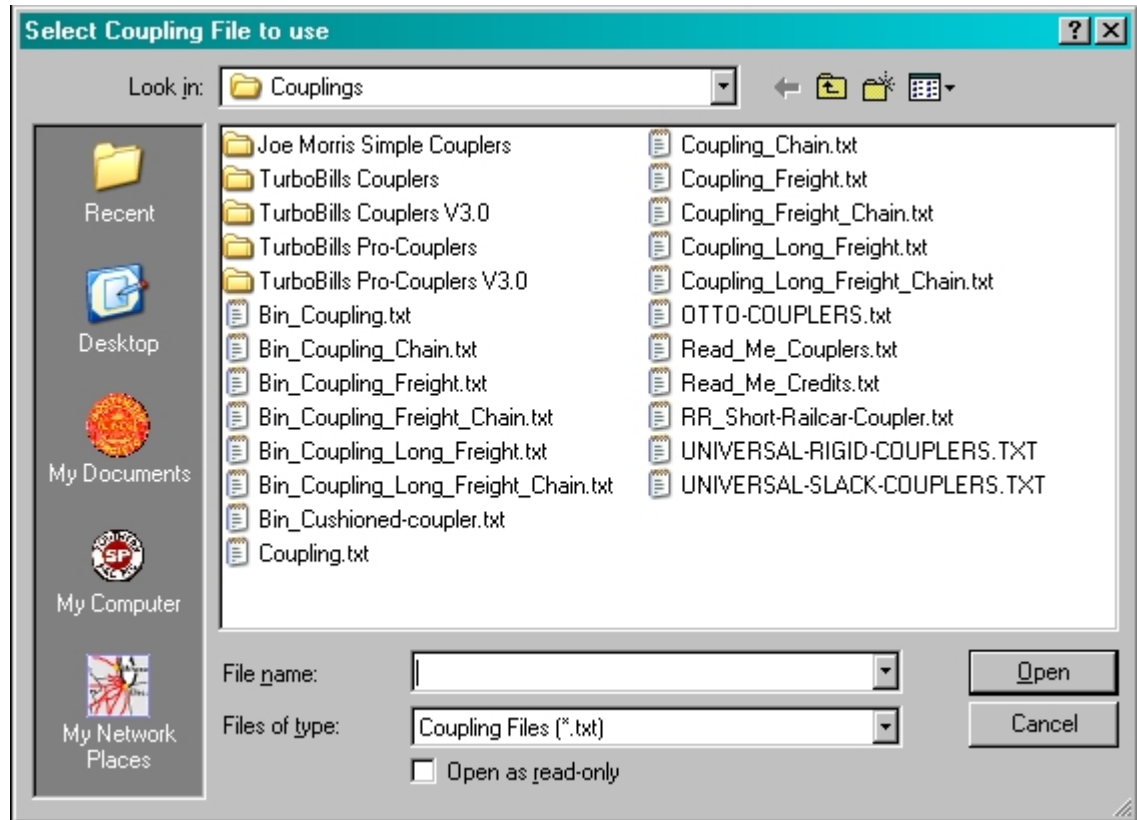

Figure 201
5. You should see the window as shown in Figure 201 (if you are continuing on from our Locomotive upgrade session then you may need to navigate back to the window shown in Fig. 201 using the folder with the "up" arrow button at the top of this window). Now double left-click the **"TurboBills Pro-Couplers V3.0"** folder option.